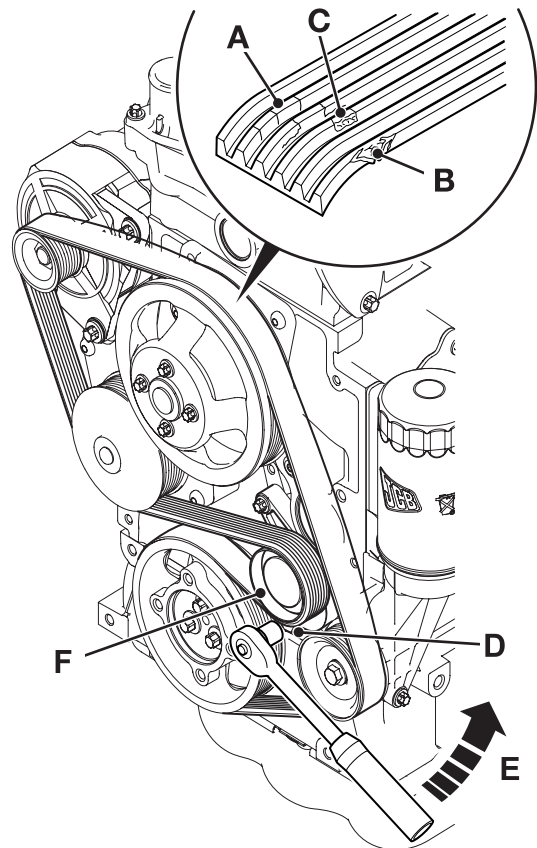

Fig 9.
- 2 Inspect the belt for cracks **A**, fraying **B** or missing pieces **C**. → Fig 9. \(□ 36\).